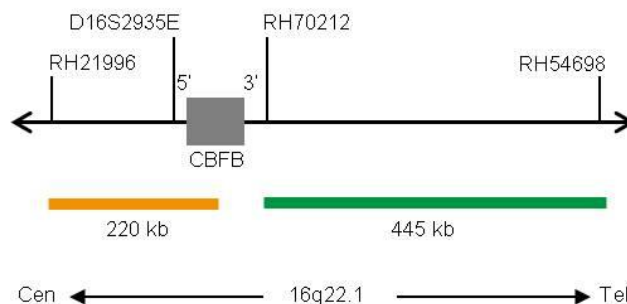

Fig. 1: SPEC CBF B Probe map (not to scale)
- ZyGreen (excitation 503 nm/emission 528 nm) labeled polynucleotides (~10.0 ng/μl), which target sequences mapping in 16q22.1* (chr16:67,161,347-67,605,304) distal to the CBF B breakpoint region (see Fig. 1).
- ZyOrange (excitation 547 nm/emission 572 nm) labeled polynucleotides (~4.5 ng/μl), which target sequences mapping in 16q22.1* (chr16:66,882,262-67,102,895) proximal to the CBF B breakpoint region (see Fig. 1).